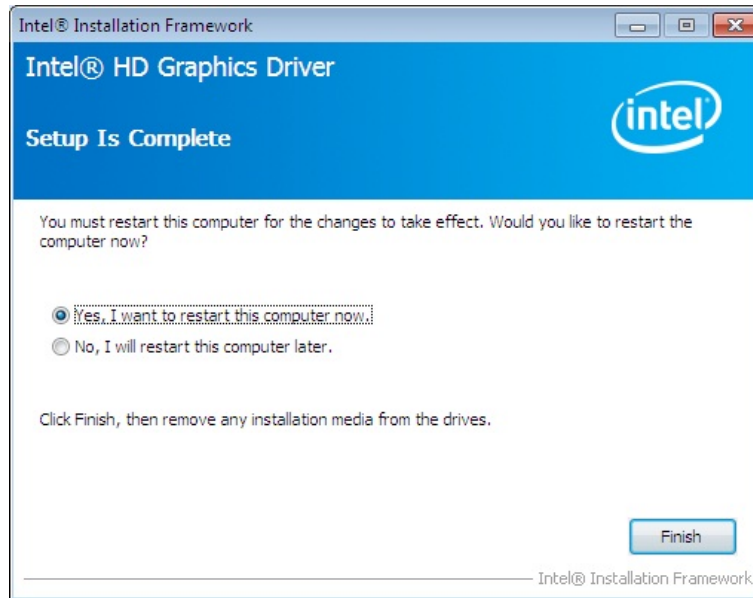

Figure 6-12: Graphics Driver Installation Finish Screen
Step 11: The **Finish** screen in **Figure 6-12** appears.